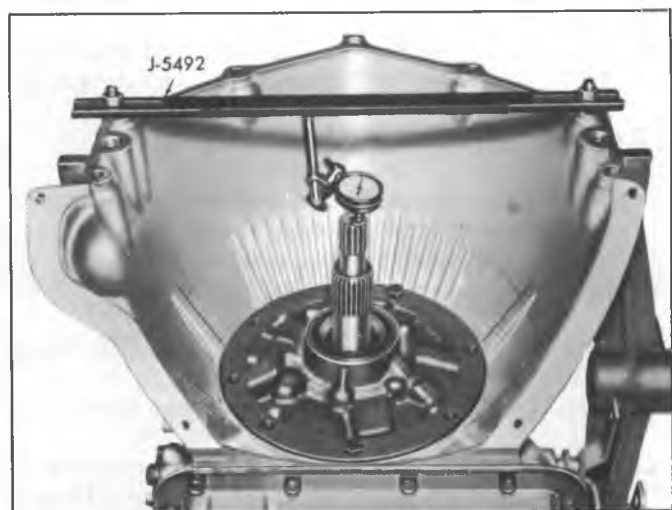

Fig. 32PG—Checking End Play for Proper Thrust Washer Selection
- a. Mount a dial indicator so that plunger of indicator is resting on end of the input shaft. J-5492 may be used to support the dial indicator as shown in Figure 32PG. Zero the indicator.